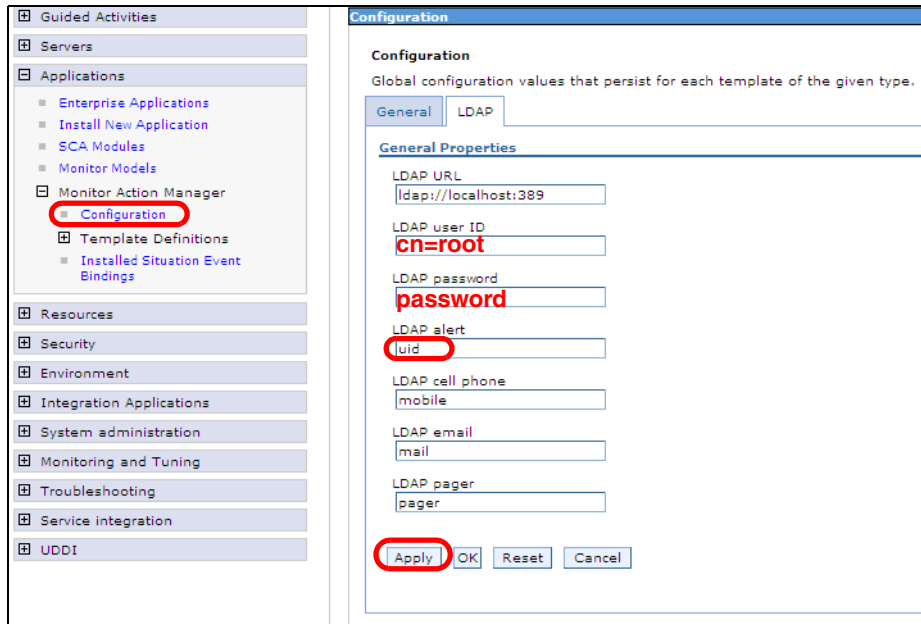

Figure 14-33 Monitor Action Manager configuration: LDAP configuration
- ▶ Take the defaults in the General tab, and select the *LDAP* tab. Update the fields to reference the LDAP server and specify uid for the LDAP alerts so that we can direct the alerts to specific dashboard users (Figure 14-33):